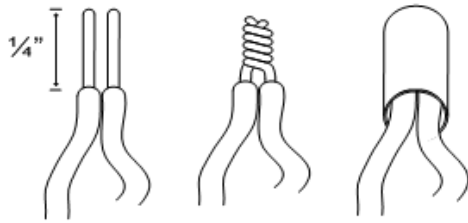

Figure 2.12: Battery Connection
4. Place heat shrink tubing over the solder joint, and shrink the tubing into place using the heat from the end of the soldering iron. See Figures 2.12 and 2.13.